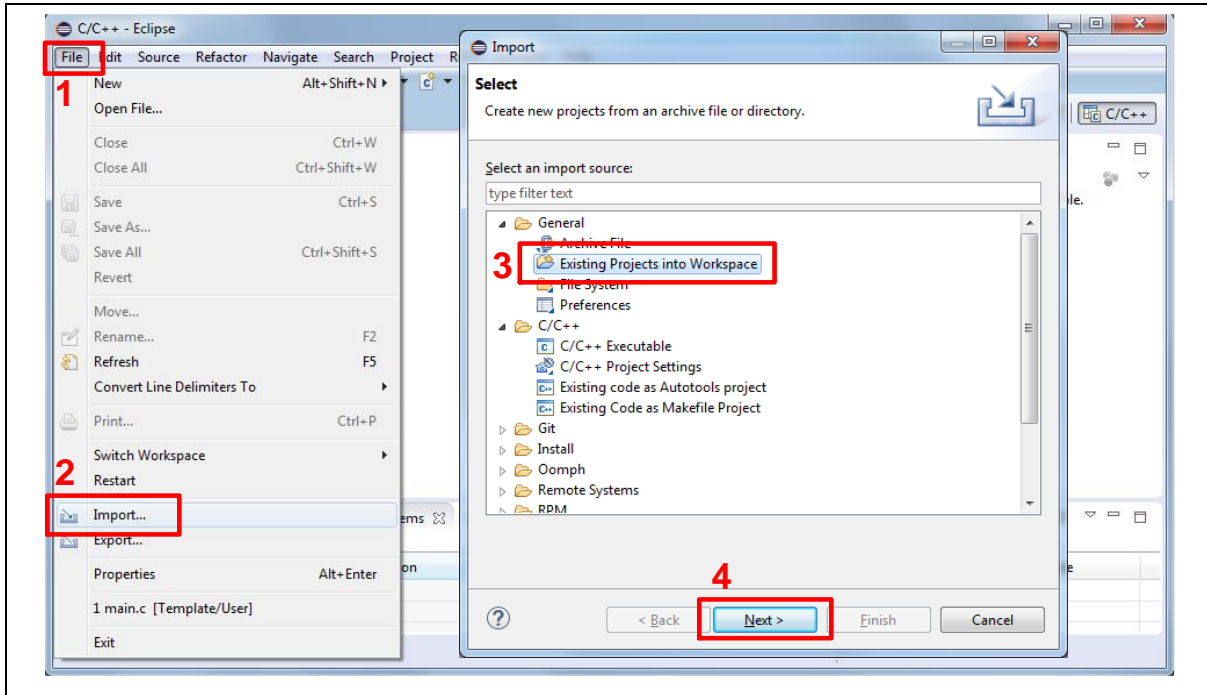
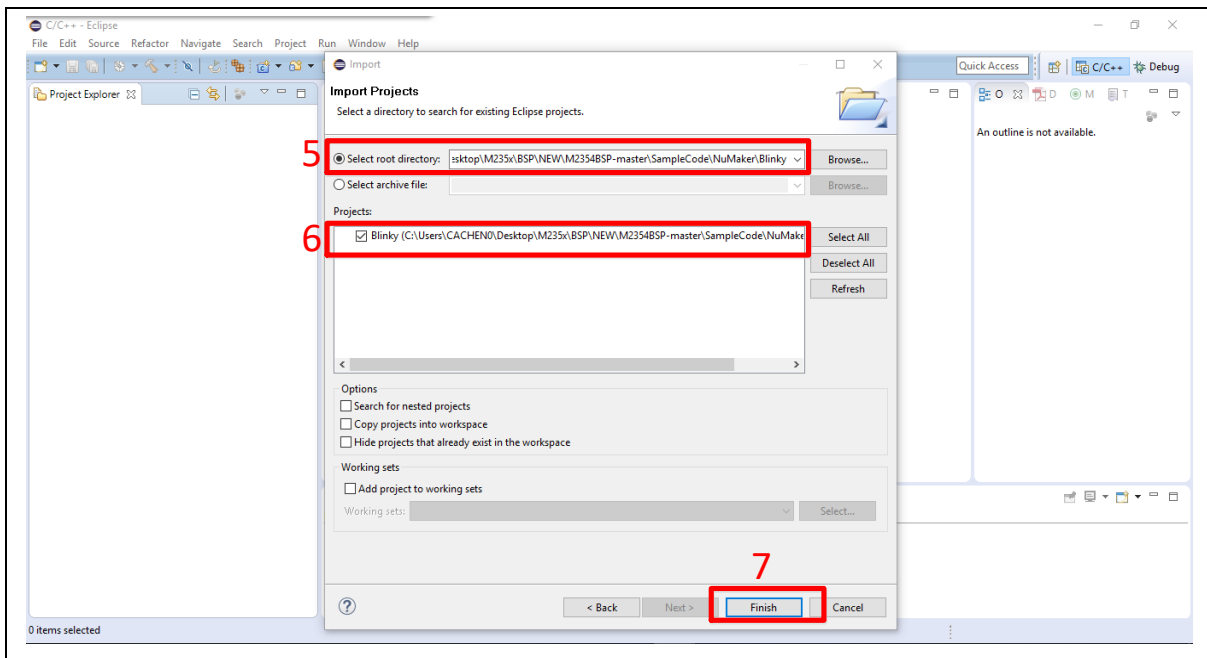

Figure 4-17 Import the Project in NuEclipse
Figure 4-18 Import Projects Windows
2. Import the “Blinky” project by following the steps presented in Figure 4-17 and Figure 4-18.